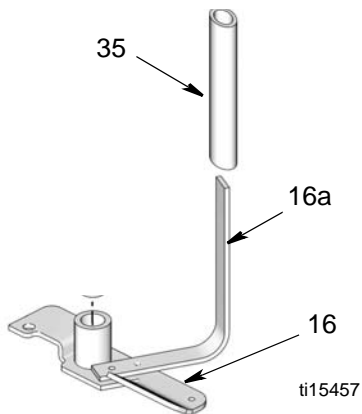

FIG. 7
3. Lightly grease stirring paddle arm (16a) with same grease you are using in the pump (FIG. 7).
4. Slide wiper (35) over arm (16a) on stirring paddle (16) (FIG. 7).